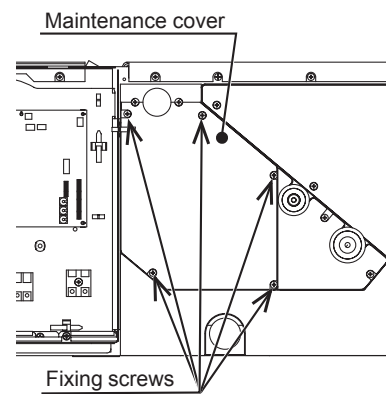

Fig. 3-2
- (2) Remove the fixing screws (5 locations) shown in Fig. 3-2, and remove the maintenance cover.